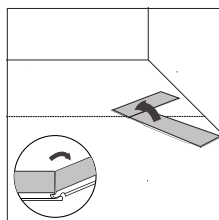

Fig. 2
- **Standard Herringbone:** Position the starting arrow so that the arrow is pointing away from the starting wall and towards the installation area. Place a wedge spacer between the side of the arrow that is closest to the wall and the wall to maintain the required expansion gap. Installation should proceed at a 45° angle from the starting line. (Fig. 2)